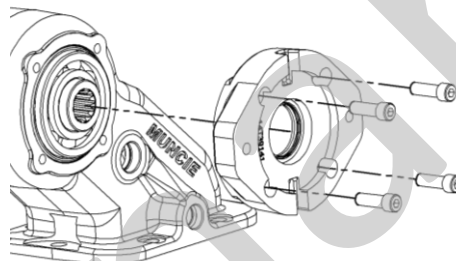

Figure 2 – Flange/Seal Assembly Removal
4. Remove the flange/seal assembly (20) by removing the four socket head capscrews (hex head capscrews for a "B" output) (21) from the flange (20) using a 5/16" Allen wrench (9/16" wrench for "B" option). *See figure 2.*